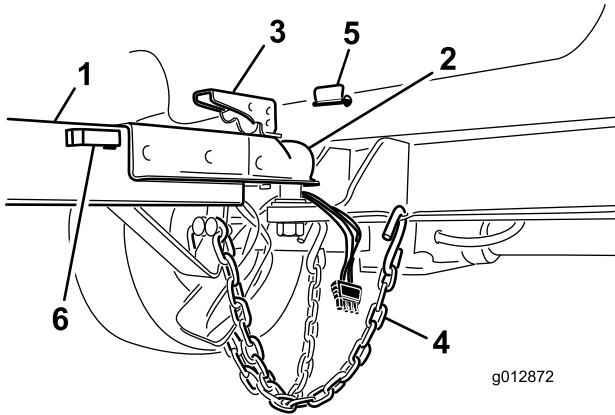

Figure 11
2. Lift the coupler lever on the tongue while lowering the cover over the ball hitch (Figure 11).